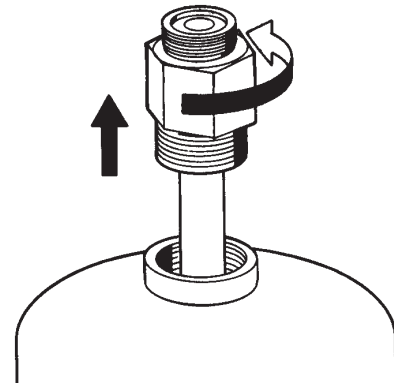

FIGURE 8-3
- 10. Remove tank adaptor/tube assembly from each tank. See Figure 8-3.